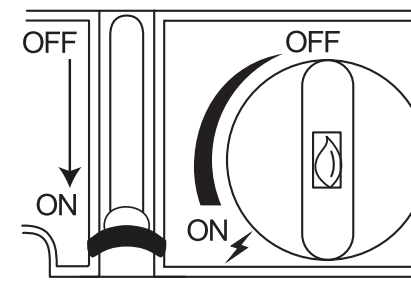

Fig. 3
3. Push the Cartridge Lock down to 'ON' in one firm motion (Fig. 3).